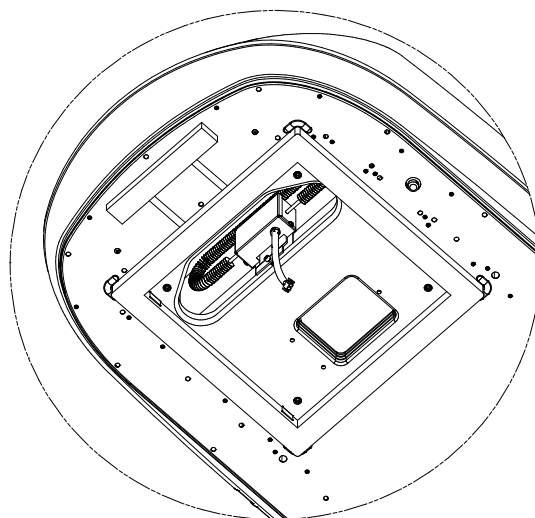

FIGURE 5
- C. Step "C" applies only if optional 9233*4551 Resistance Heat Kit is installed at this time. If installed, position the heater assembly in the heat pump return air opening as shown in Figure 5. The heater bracket must be installed over the metal basepan extrusion and positioned between the basepan and the plastic drain pan